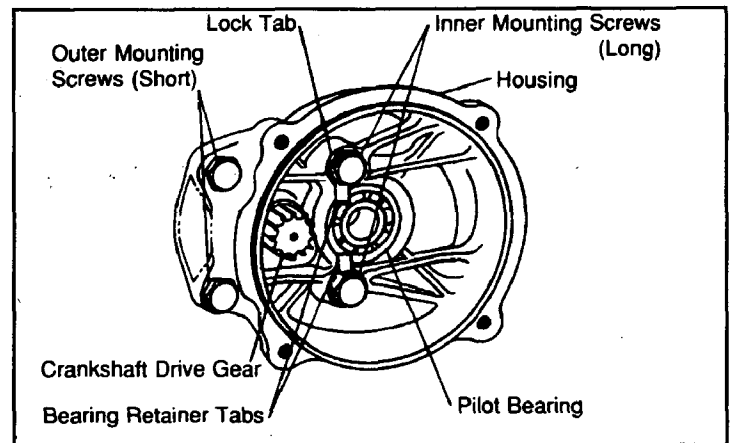

Figure 3
4. With reference to Figure 3, straighten lock tabs on hex of inner mounting screw heads, loosen and remove two inner and two outer housing mounting screws and washers. NOTE: the two outer screws should be tagged as 5/16 - 24 x 1 inch long so as not to be mistaken for the 8mm x 25mm long screws removed earlier.
1. With gasket in place, mount housing, with pilot bearing shown in Figure 3, to the right, left, above or below the crankshaft drive gear, depending on desired take-off shaft location.